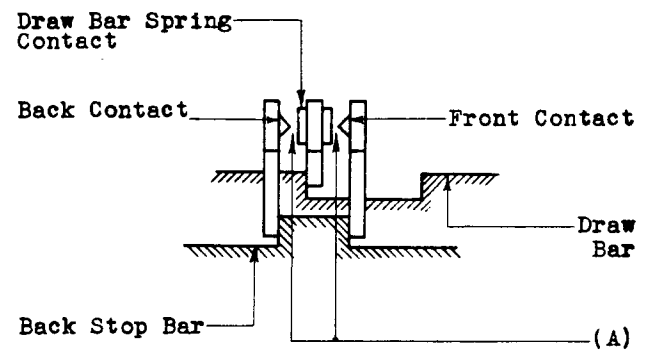

Fig. 7
2.13 Contact Sequence - Break-Make (Transfer) Spring Combinations Fig. 7 (A) - The back contact shall break from the draw bar spring contact before the front contact makes with it. Gauge by eye.